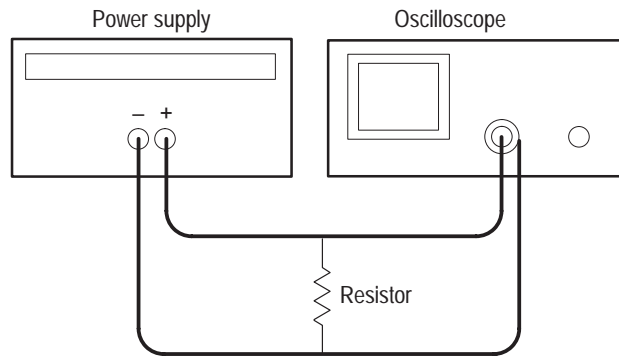

Figure 4: Constant voltage ripple and noise test setup
2. Ensure that the power supply output is disabled. Connect the oscilloscope and 27 Ω 100 W resistor to the front panel OUTPUT 1 terminals. See Figure 4 for details.
10. Ensure that the power supply output is disabled. Remove the leads from the front panel OUTPUT 1 terminals and connect them to the front panel OUTPUT 2 terminals. Maintain the equipment configuration and polarities shown in Figure 4.
2. Ensure that the power supply output is disabled. Connect the oscilloscope and 2.2 Ω 50 W resistor to the front panel OUTPUT 3 terminals. See Figure 4 for details.